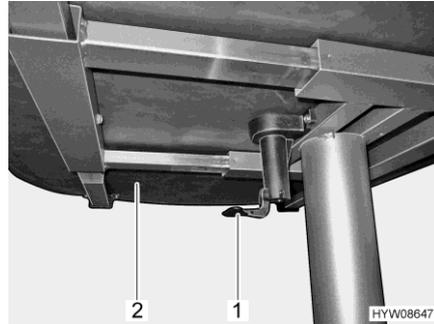

Fig. 80 Lever for moving the table top
- Pull or press down the lever (Fig. 80,1).
- Move the table top (Fig. 80,2) to the desired position.